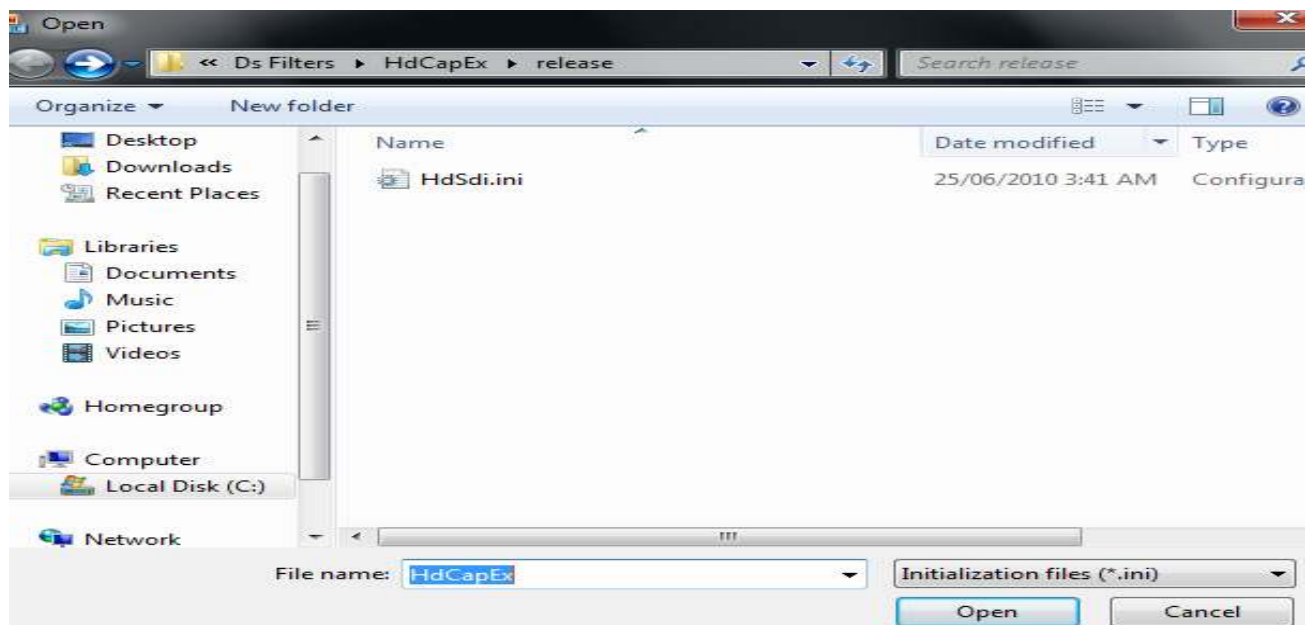
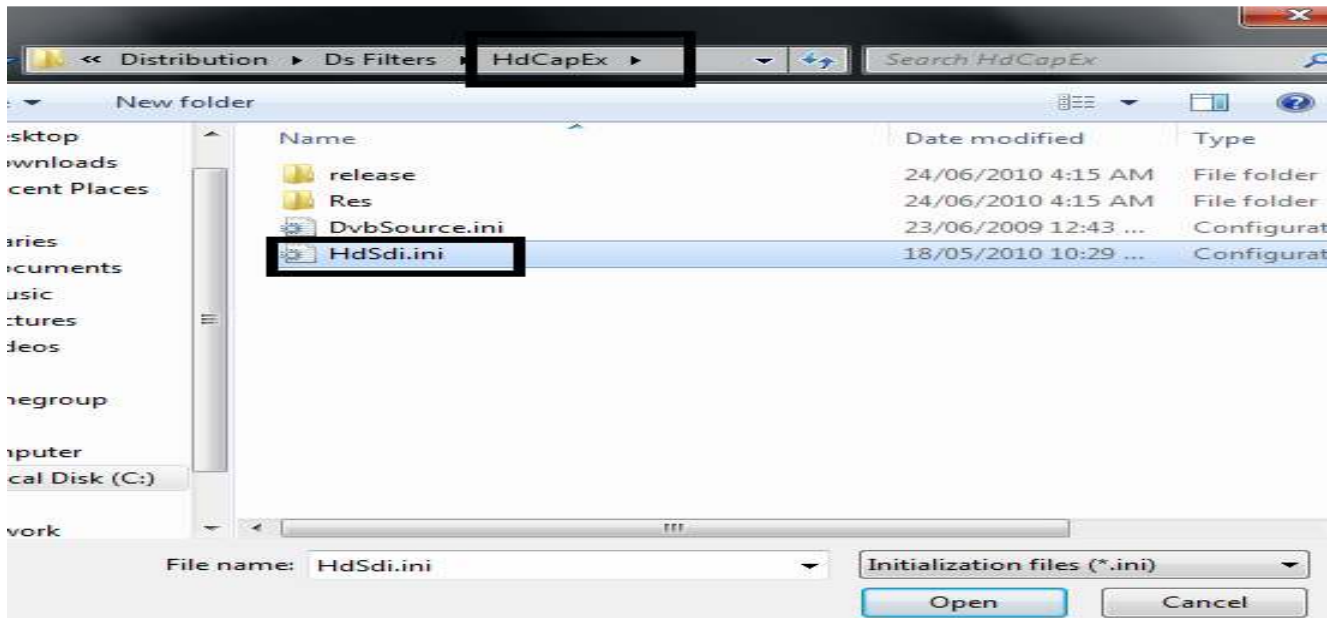

Figure 4.1 Open window displaying HdSdi.ini file
Figure 4.2 Selecting HdSdi.ini file
- This pops up an Open window which will have the “HdSdi.ini” file already selected (*Fig 4.1*), if not then go up one folder level “HdCapEx”, select file “HdSdi.ini” (*Fig 4.2*) and click Open.